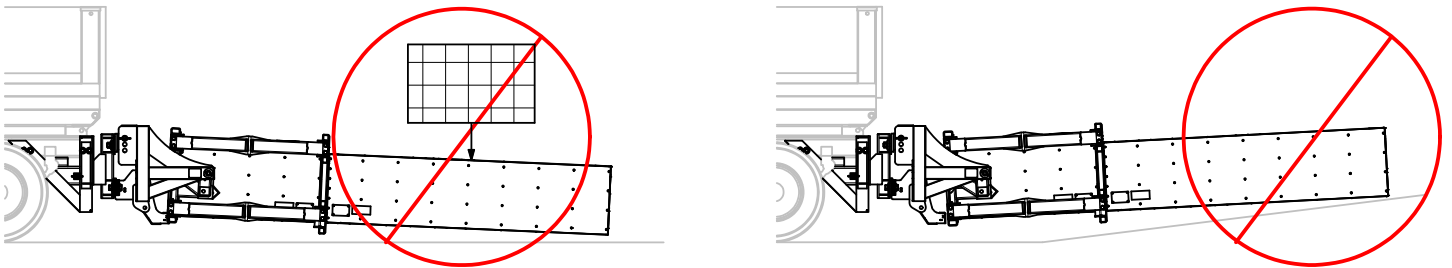

Figure 5
3. **Do not drag the TMA or place anything on its top: damage may result (Figure 5). Do not sit, stand, or lean on any part of the TMA.**